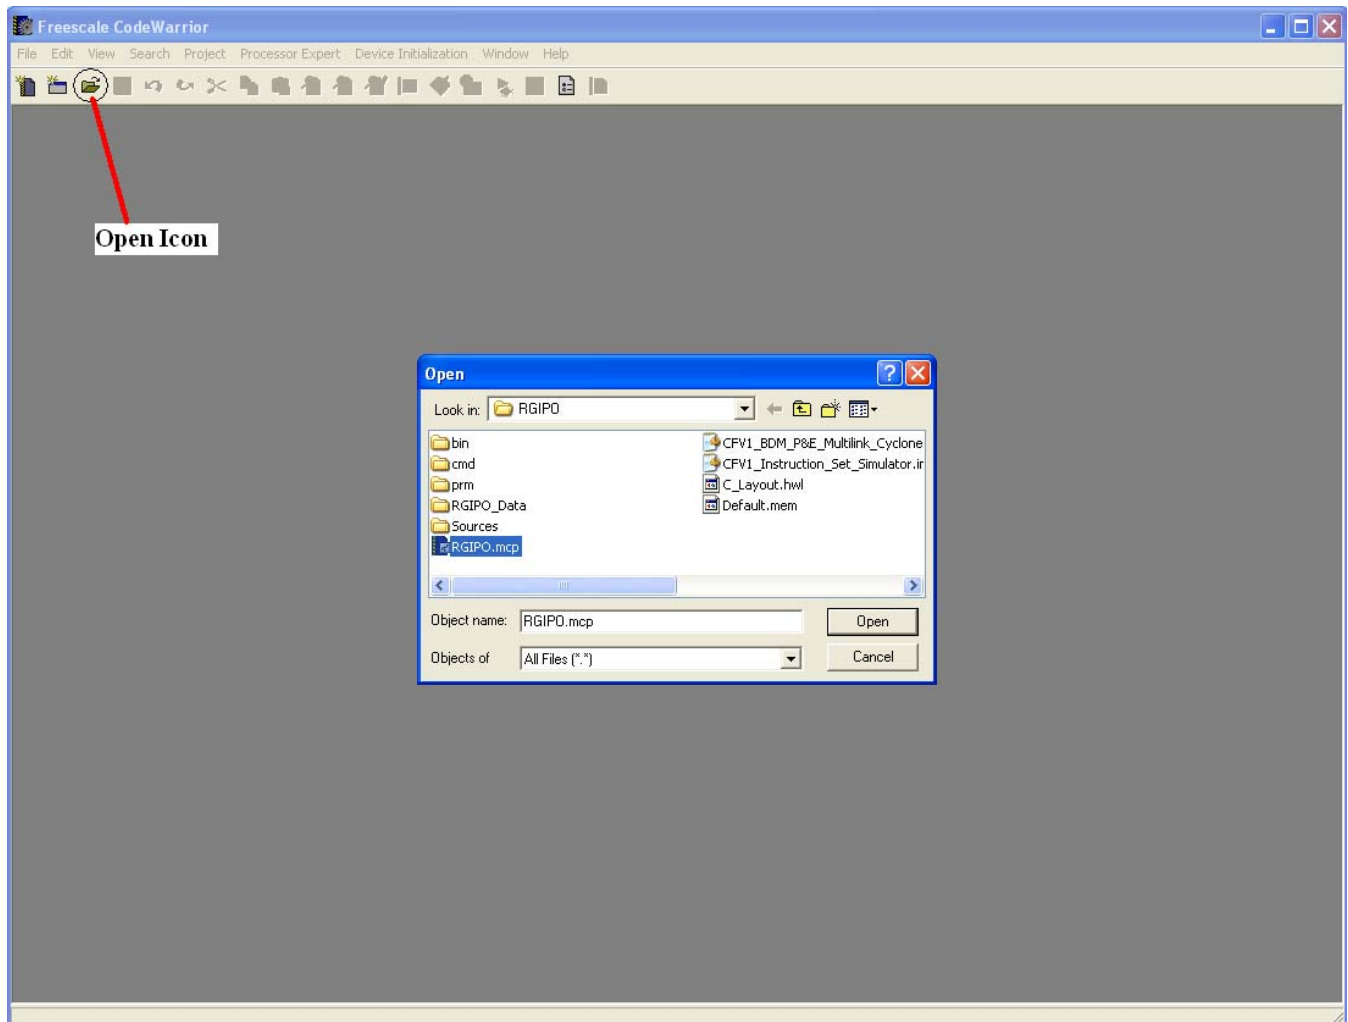

Figure 3-1. Open the Desired Project
2. File -> Open, or click on the Open Icon as shown in Figure 3-1.